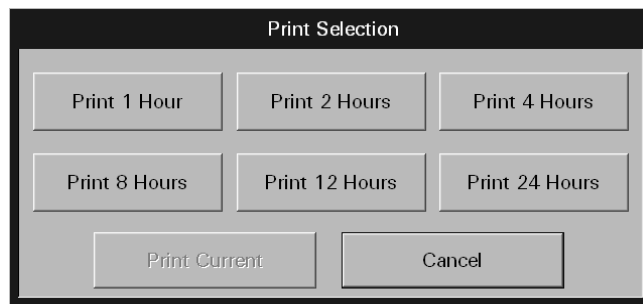

FIGURE 8-9 Print Selection Dialog Box
1. Select the **Full Disclosure Report** button in the **Patient Reports** tab. The Print Selection dialog is displayed (shown in FIGURE 8-9).
3. From the menu bar, select the **Print** button. The Print Selection dialog is displayed (shown in FIGURE 8-9).